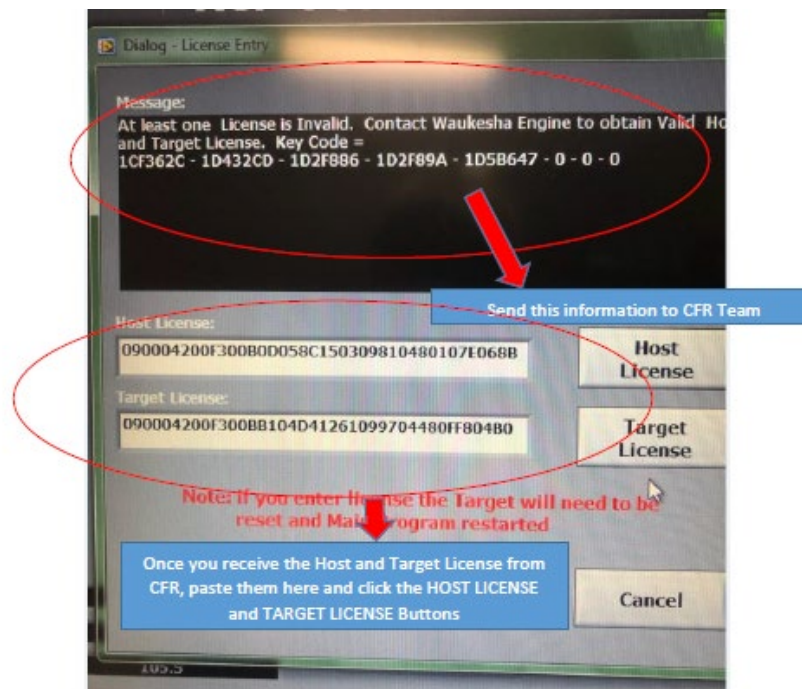

Figure 7
- A new license key will be required to allow communication between the new cRIO and software (**See Figure 7**)